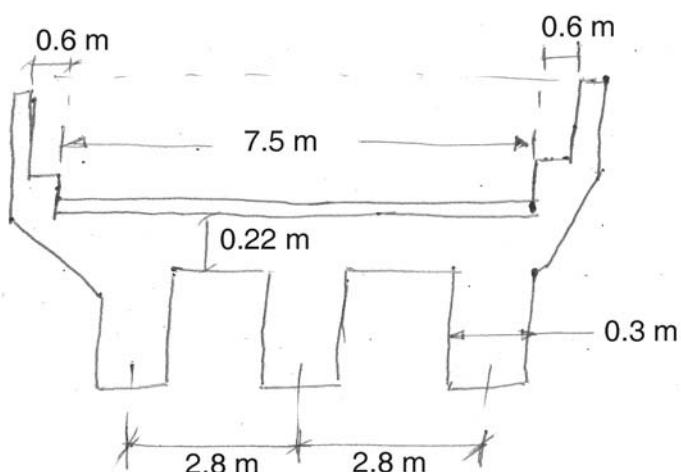

Fig. 3.1
3. Design central longitudinal girder of a 'T' beam bridge as shown in Fig. 3.1. 13